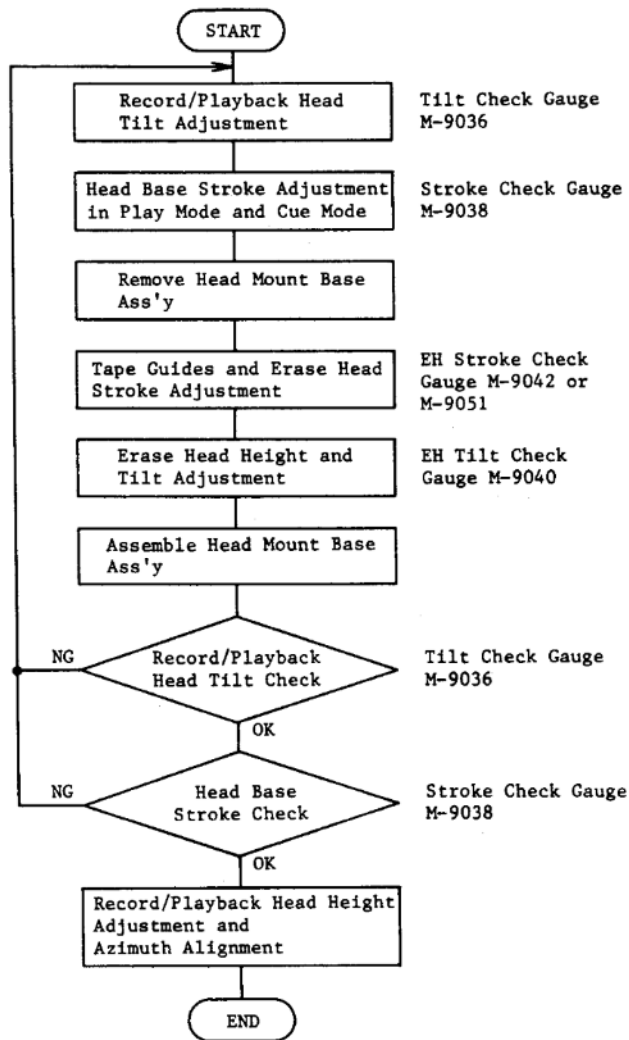

Fig. 5.4
On items 5.3 – 5.7, please refer to Fig. 5.4 flow chart.